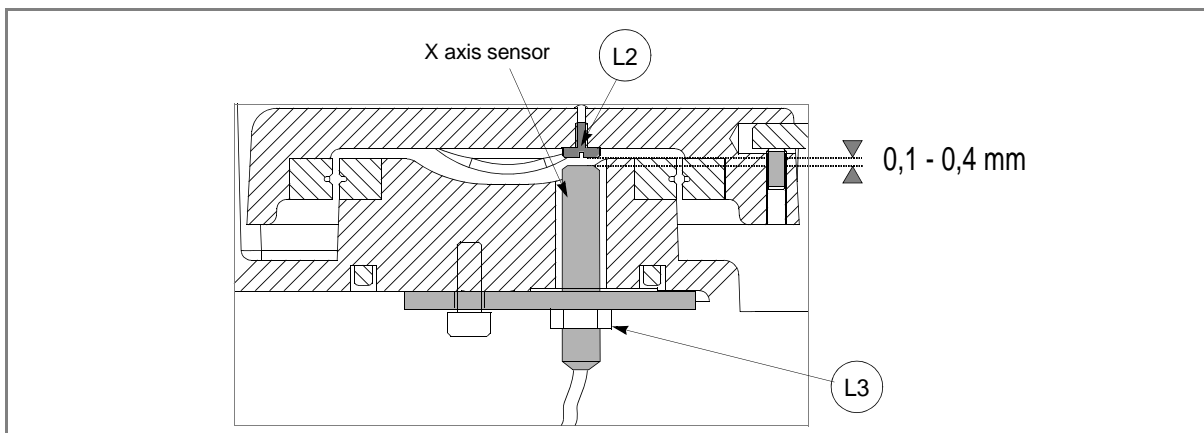

Fig. 55
- 4) loosen the (L3) nut. Unscrew the sensor from the plate and remove (fig. 55).
- 6) fit the new sensor in position, tightening it until it almost touches the (L2) screw (fig. 55) thus securing it with the (L3) nut.